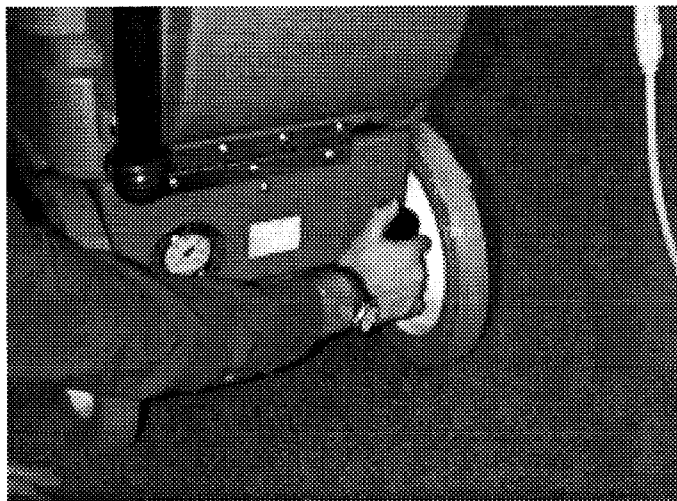

Fig. 6
3. Adjust pressure valve knob to read 30 psi on pressure gauge. (Figure 6)